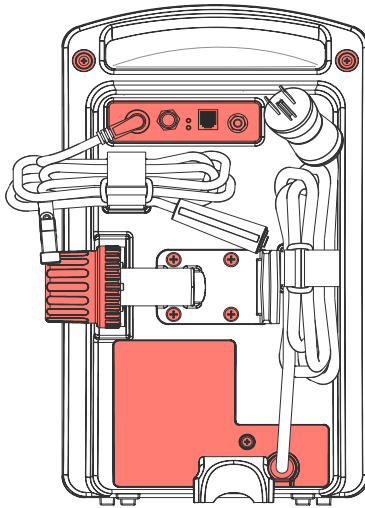

Figure 8-2.
- Turn the infuser upright to view the back (see **Figure 8-2**).
- Using a combination of brushing, swabbing, and wiping (either with a lint-free cloth dampened in the approved cleaning solution or wipes), clean the threaded pole clamp shaft by rotating the knob back and forth, and clean the knob highlighted in **Figure 8-2**.
- Use a brush to remove debris and moist swabs to clean any openings or hard to reach areas highlighted in **Figure 8-2**.